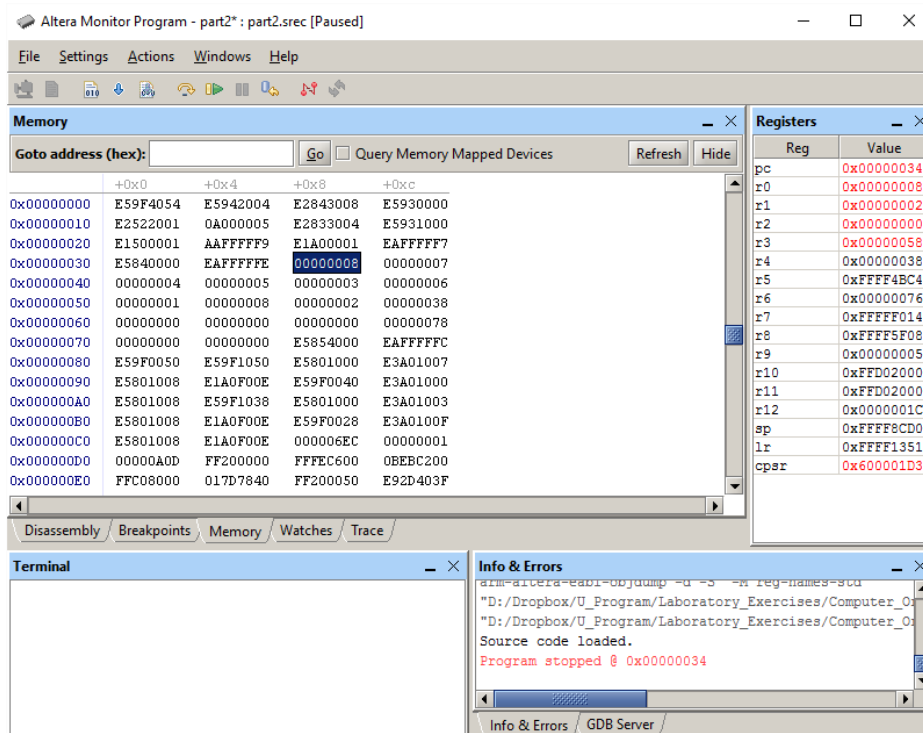

Figure 12: Displaying the result in the memory tab.
5. Execute the program. When the code is running, you will not be able to see any changes (such as the contents of registers or memory locations) in the Monitor Program windows, because the Monitor Program cannot communicate with the ARM processor while code is being executed. But, if you pause the program then the Monitor Program windows will be updated. Pause the program using the icon  and observe that the processor stops within the endless loop **END: B END**. Note that the largest number found in the sample list is 8 as indicated by the contents of register R0. This result is also stored in memory at the label **RESULT**. As discussed above, the address of the label **RESULT** for this program is **0x00000038**. Use the Monitor Program's Memory tab, as illustrated in Figure 12, to verify that the resulting value 8 is stored in the correct location.